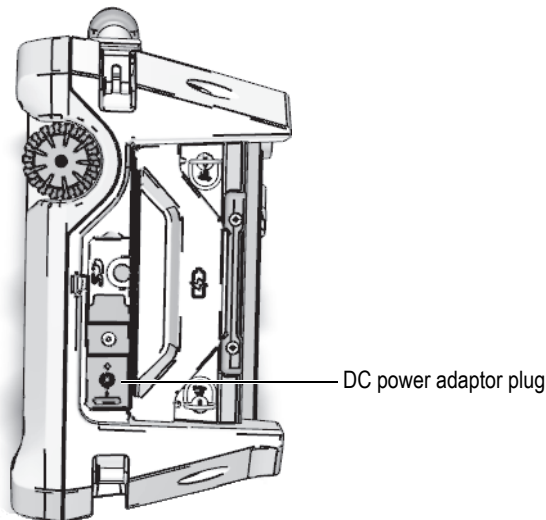

Figure 2-3 The OmniScan MX2 DC power adaptor plug
2. On the right-hand side of the OmniScan MX2, lift the rubber seal covering the DC adaptor connector plug (see Figure 2-3 on page 38).
3. Connect the DC power adaptor to the OmniScan MX2 DC power adaptor plug (see Figure 2-3 on page 38).